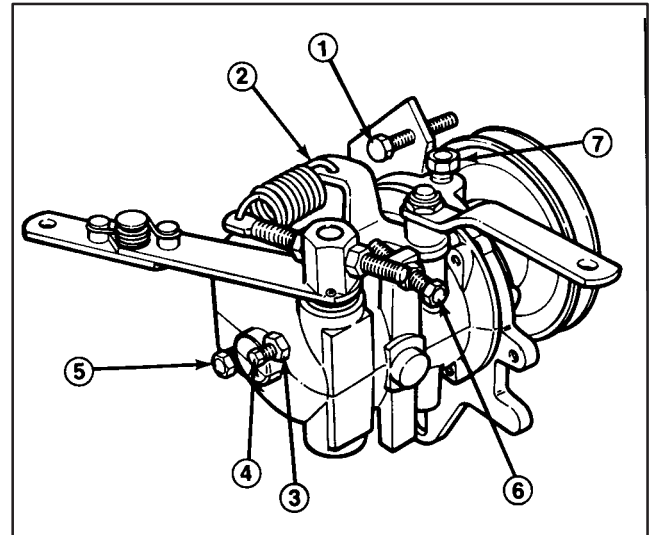

Figure 39
5. Release throttle arm, loosen jam nut on governor low idle speed screw and adjust it to attain 1500 ± 100 rpm (Fig. 39).
6. Slowly move throttle to FAST position until engine speed reaches 3200 ± 100 rpm. Shut off engine. Adjust high idle stop screw until it contacts speed control lever (Fig. 39).
8. Check V-belts from engine to governor pulley and assure they are tight. If belts are loose, the engine will surge. If belts are tensioned properly, loosen jam nut that retains the anti-surge screw (Fig. 39). Rotate screw clockwise 1/8 turn at a time until surging stops. Should governor continue to surge, check the following:
3. Clean area around check plug on governor (Fig. 39)